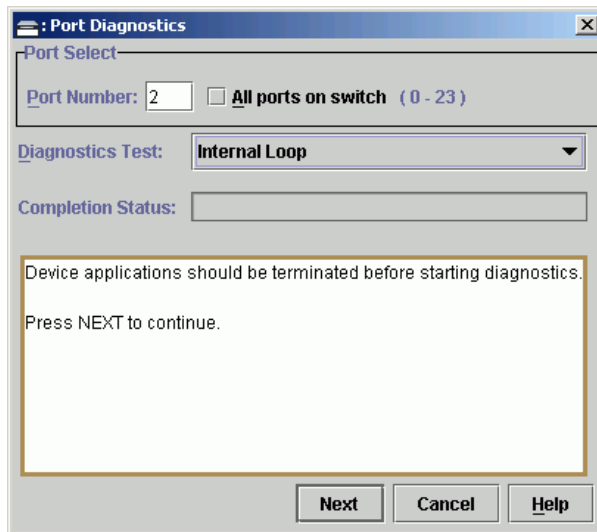

Figure 4-26 Port Diagnostics Dialog Box
4. Select the *Port Diagnostics* option from the *Maintenance* menu. The *Port Diagnostics* dialog box displays (Figure 4-26 on page 4-42).
6. Select the *Port Diagnostics* option from the *Maintenance* menu. The *Port Diagnostics* dialog box displays (Figure 4-26 on page 4-42).